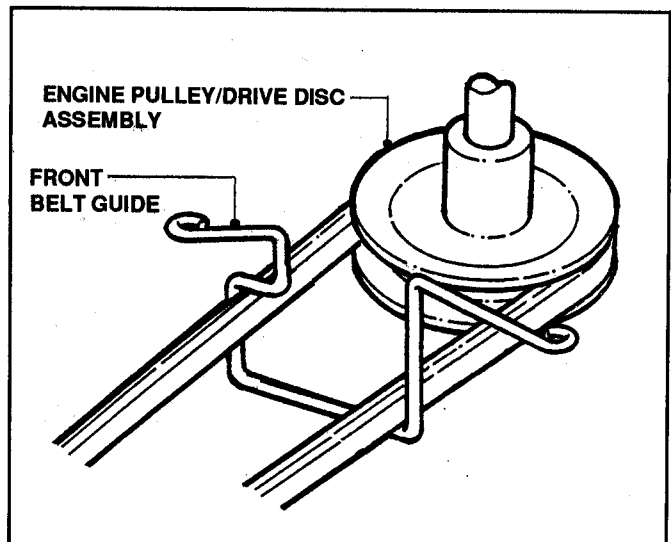

FIGURE 4.23
- Move transmission shift lever to the neutral (N) position.
- Move transmission shift lever to the #5 position and place belt over drive disc and into drive pulley belt groove. See Figure 4.23.